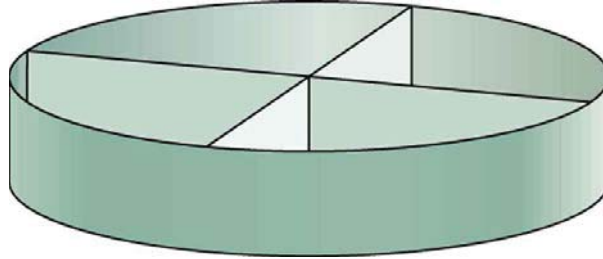

Figure 12.28 You will find devices such as this in many drains. They significantly increase flow rate.
27. Sink drains often have a device such as that shown in **Figure 12.28** to help speed the flow of water. How does this work?